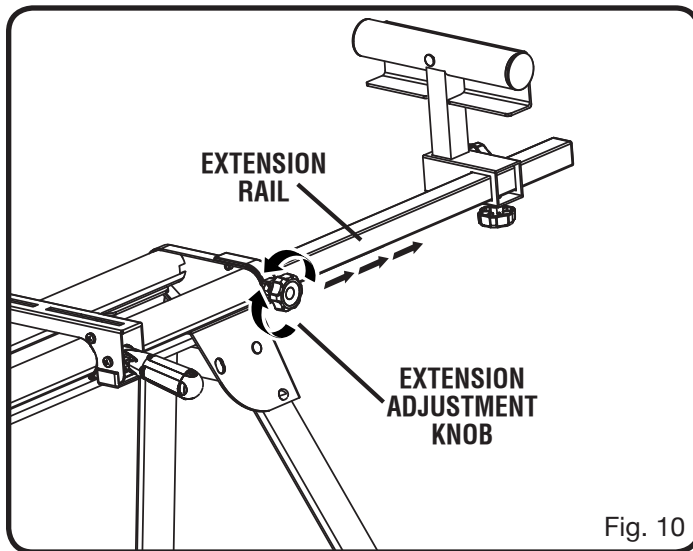

Fig. 10
See Figure 10.
- Pre-drill and countersink holes for screws in each of the strips as shown in figure 10; install screws.